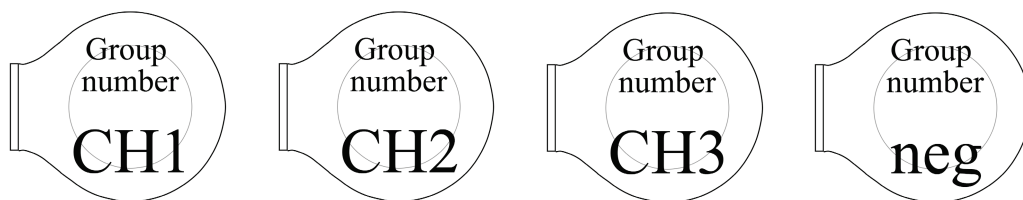

Fig. 12
6. Label the lid of 4 other micro-centrifuge tubes “CH1”, “CH2”, “CH3”, and “neg” (for negative control) with your group number (Fig. 12).